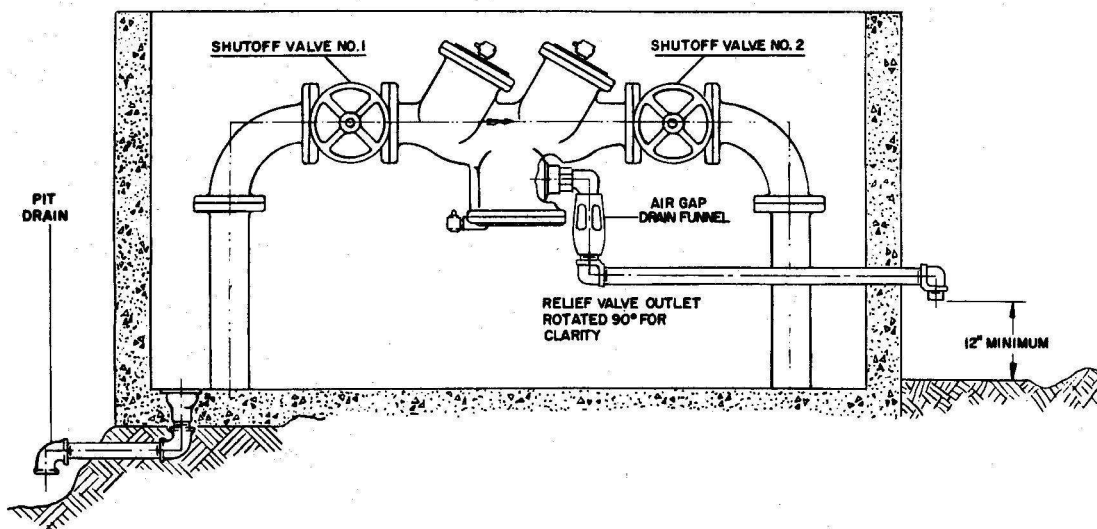

FIGURE 4
C. MODIFIED PIT INSTALLATION (Fig. 4)
Unless absolutely necessary, it is strongly recommended that backflow preventer *not* be placed in pits. In the event installation must be made in a pit, the modified pit type installation (Fig. 4) is preferable. The relief valve drain should be piped to the outside of the vault and discharged no less than 12" above the grade line; and should not be higher than the Relief Valve Outlet at any point.